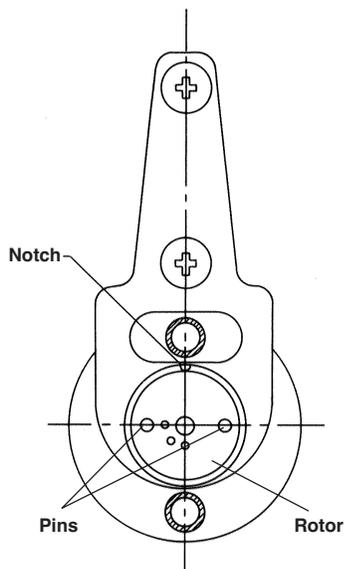

Fig. 8. Rotor orientation viewed from outlet end.
- Confirm that the two  $1/16$  inch holes in the new rotor line up with the pins in the handle plate, and push the rotor down until the small side of the rotor pushes through the hole in the handle plate. The notch on the metal band around the rotor lines up with the knob screws (see Figure 8).